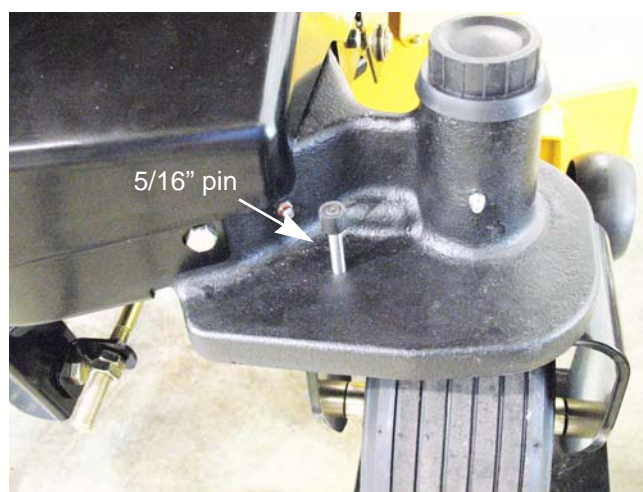

Figure 6.4
5. Insert two 5/16" pins through the holes in the axle castings. The pins should pass through the casting down to the wheel yokes. See Figure 6.4.